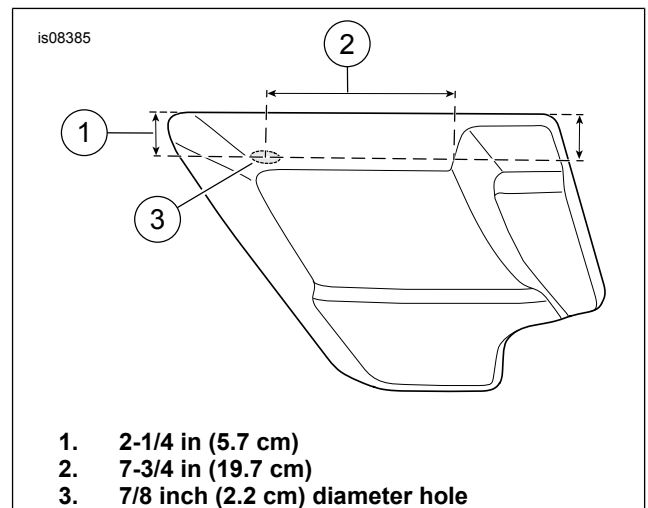
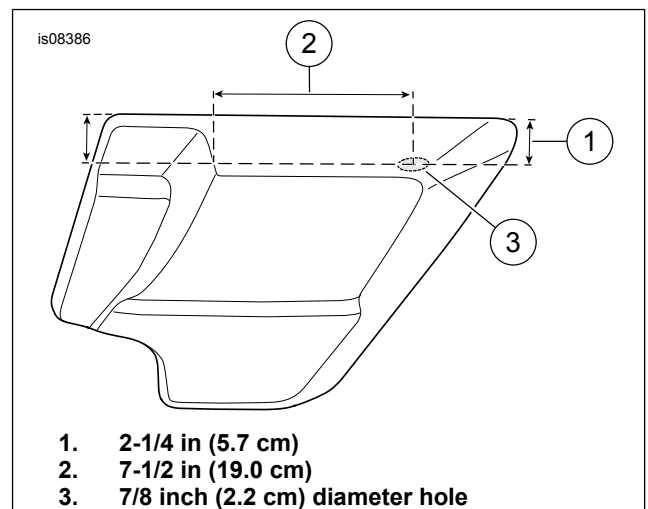

Figure 1. Left Side Cover
Figure 2. Right Side Cover
- a. Use the location noted in Figure 1 or Figure 2.